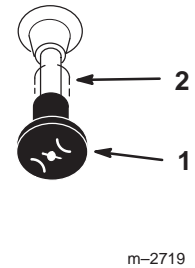

Figure 16
- Move the choke control to *on* position before starting a cold engine (Fig. 16).
- After the engine starts, move the choke to *off* (Fig. 16). If the engine stalls or hesitates, move the choke back to *on* for a few seconds. Then move the throttle lever to desired setting. Repeat this as required.